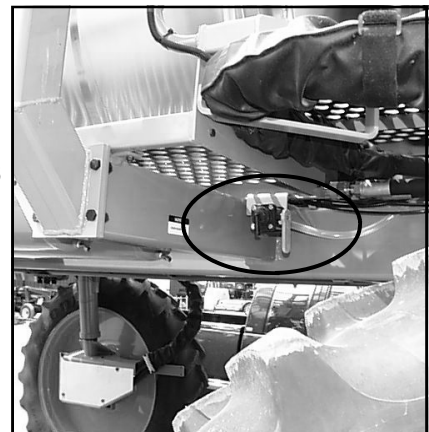

FIG 53-4
**HAND WASHING SYSTEM**– Fill the hand wash tank (fig. 53-3) with fresh water only! The hand wash is located under the left side of the sprayer (fig. 53-4). Remember to close the valve before refilling.